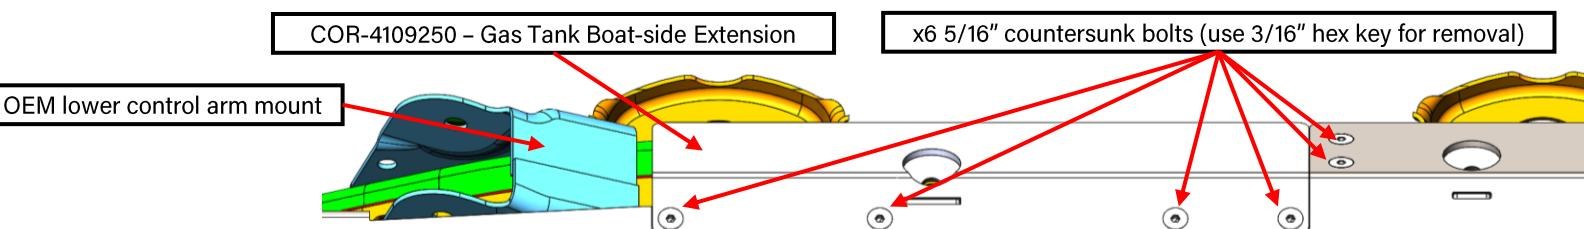
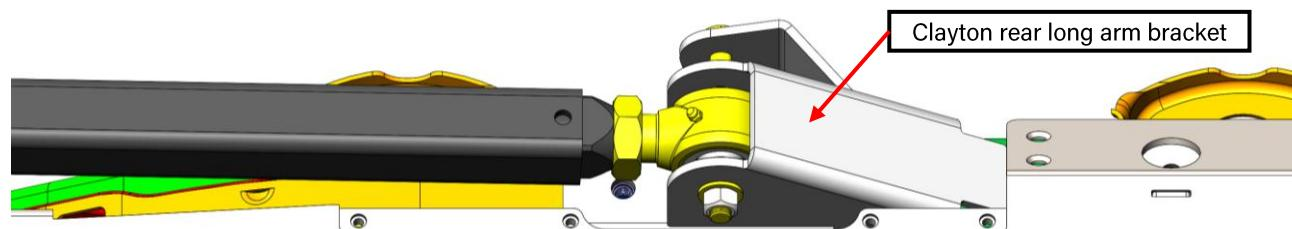

Figure 16: Boat-side Extension installed for a short-arm suspension setup using OEM lower control arm frame mounts
Figure 17: Boat-side Extension removed for a Clayton long-arm suspension setup using weld-on frame bracketry
13. **LONG ARM NOTE:** If you are installing the new gas tank skid plate on a vehicle with Clayton Off Road Rear Long Arm Brackets, note that you must remove of the Gas Tank Extension for the new skid plate before installing the new skid plate onto the vehicle. See photos below. Use a 3/16" hex key to remove the x6, 5/16" countersunk bolts from the threaded inserts. Figure 16 shows the Gas Tank Extension installed with the OEM short-arm control arm mount. Figure 17 shows the extension removed, the OEM short-arm control arm mount removed from the frame, and the Clayton Rear Long Arm Bracket installed.